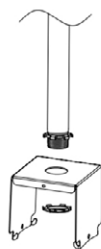

Figure 4
1. Mount the bracket on 3/4" NPT (See Fig. 4)